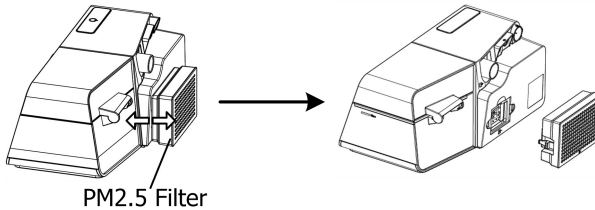

Fig. 19-6
(3) Change the air filter and filter cap to the PM2.5 filter, as shown in Fig. 19-6.